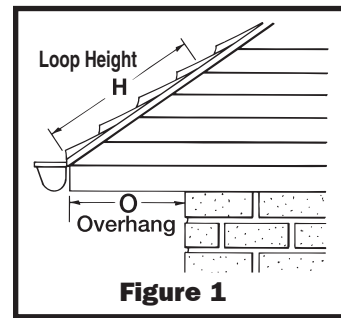

Figure 1
- Measure the overhang (shown in Figure 1) and determine the length multiplier for the type of roof, Table 2. Note: If the exact overhang is not listed, use the next larger size available in the chart.